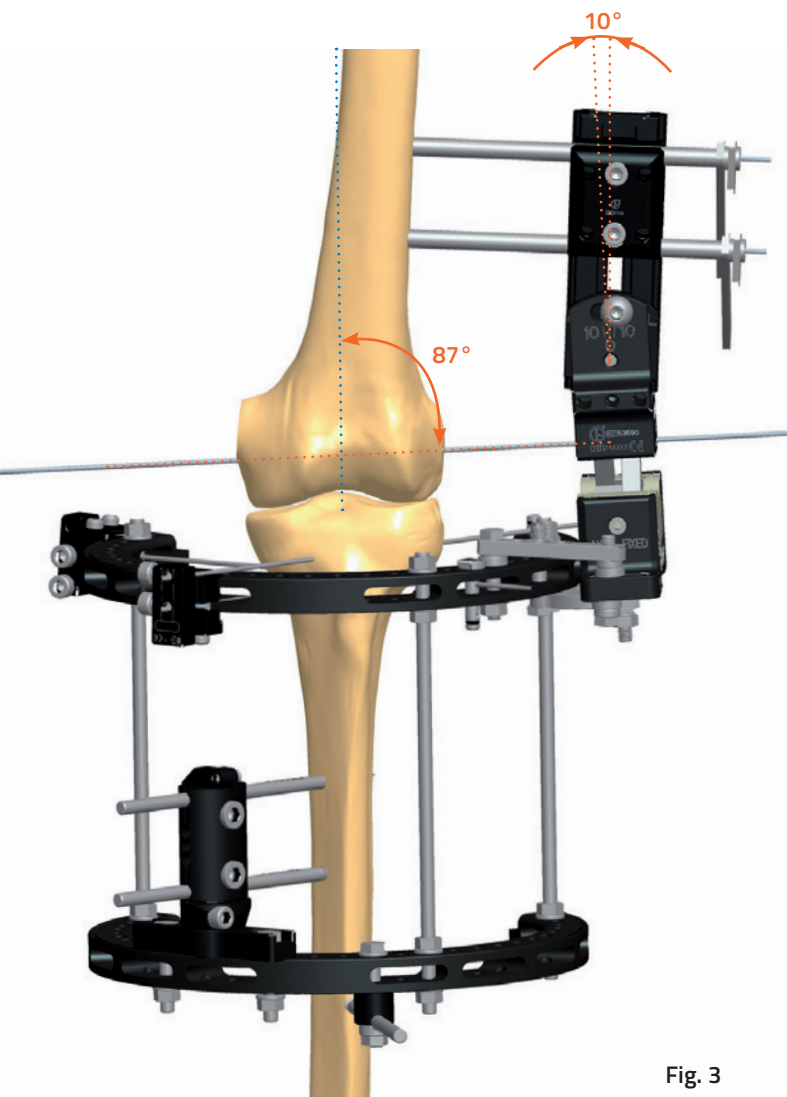

Fig. 3
- Insert 2 wire guides into the screw guides positioned in the screw seats 1 and 5 of the straight clamp. Insert the wires (Fig. 3).